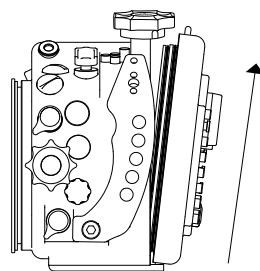

Figure 2
- Remove the back diagonally, paying attention to the pins located underneath; (fig. 2)